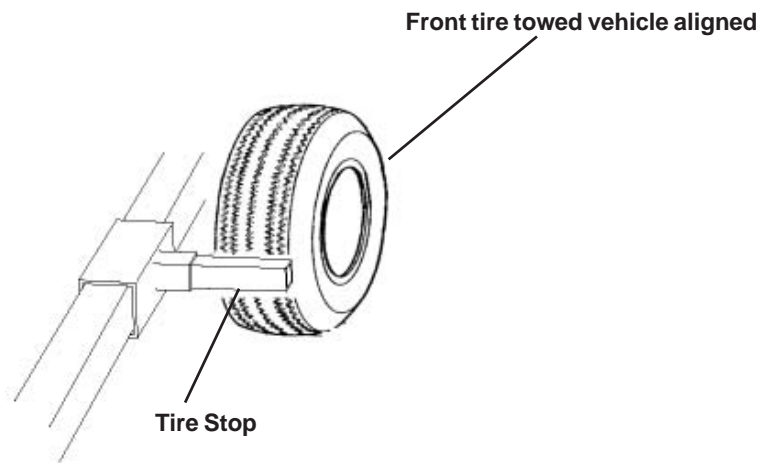

Figure 43. Tire Stop
2. Using tire stop as a guide, reference Figure 43, align boom to frame of towed vehicle and back prime mover and towing device under vehicle.